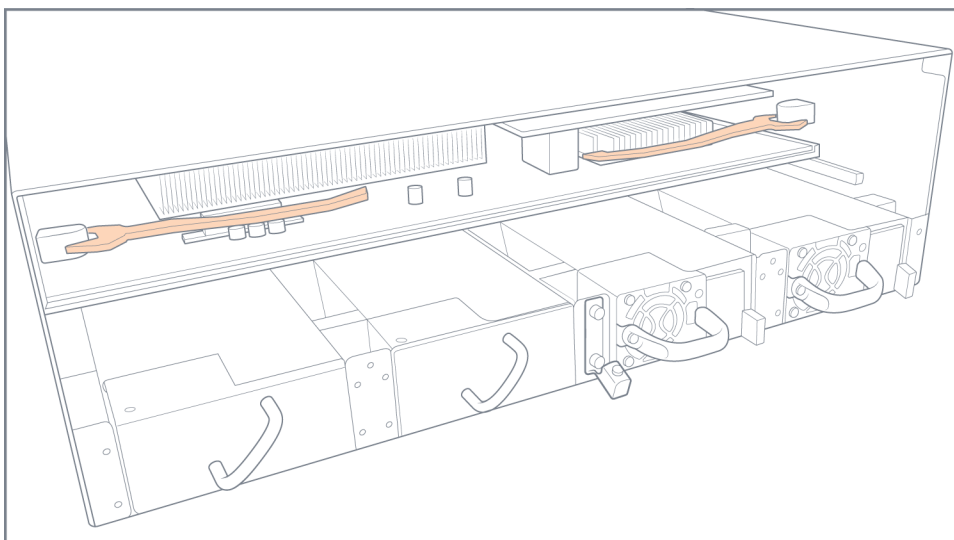

Figure 22 Control Card Seated
3. Seat the control card as shown in Figure 22 Control Card Seated.